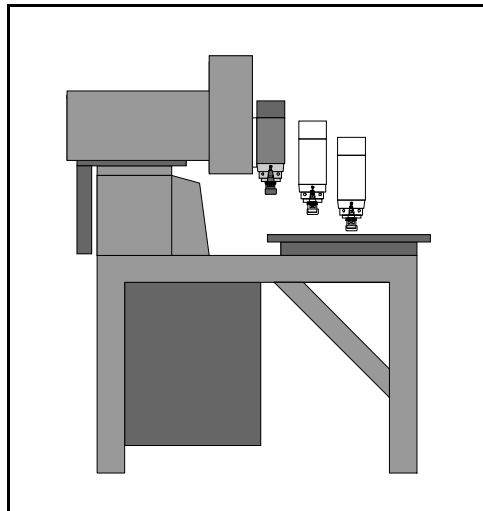

Figure 5.13 *3D line motion*
*Figure 5.13* shows movement of the CNC machine arm while following a 3D line.